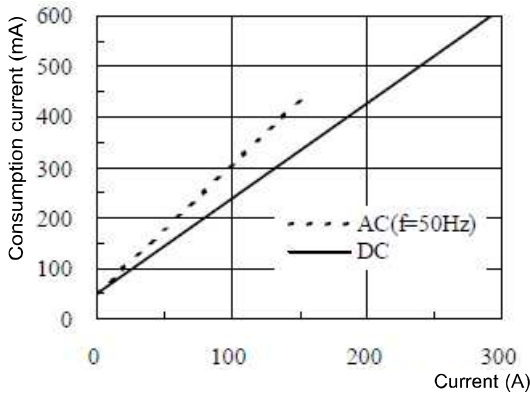
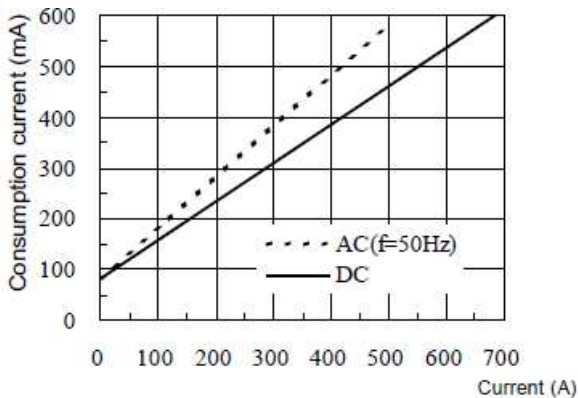

Fig.7 Current consumption* vs. current to be measured (typical for SS-560)
Fig.8 Current consumption* vs. current to be measured (typical for SS-570)
- The current consumption of this instrument depends on the current value to be measured. Confirm that the total current consumption of this instrument does not exceed the current of 600 mA. See Figure 7 (for SS-560) or Figure 8 (for SS-570).